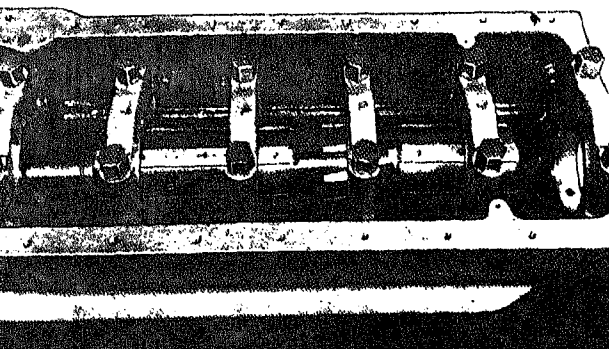

Fig. 1-1-15. Reaming main bearing bore
5. Lubricate reamer cutters and bores in block with engine lubricating oil. This will prevent reaming oversize and allow a better finish, Fig. 1-1-15.